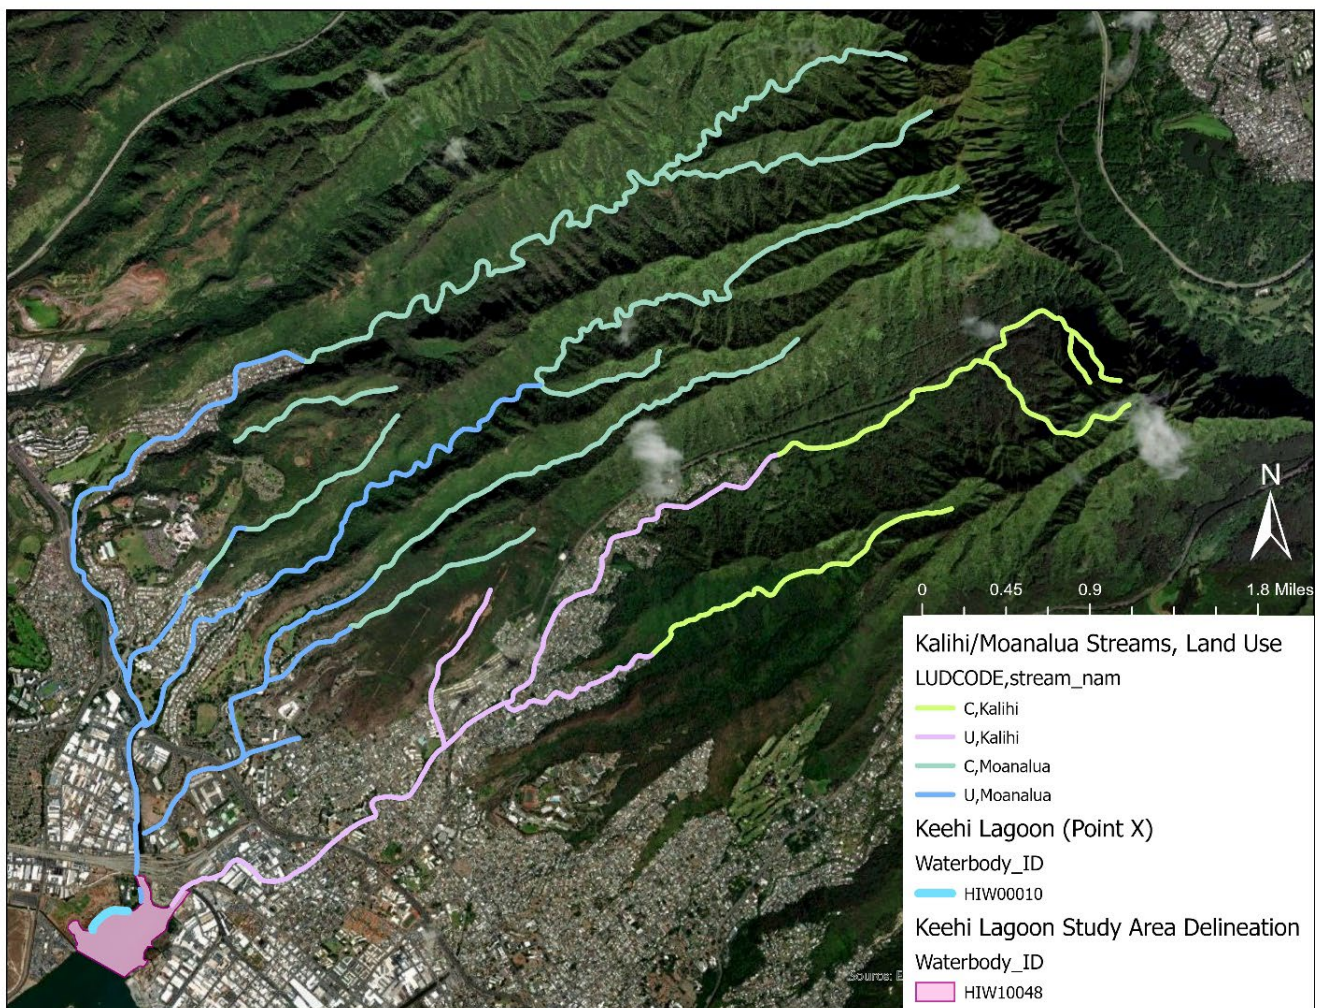

Figure 1: Water body reference map. Inland waterbodies are divided by which State Land Use area they run through (in this case conservation [C] or urban [U])
For over 15 years, Keehi Lagoon (Point X), Moanalua Stream, and Kalihi Stream (Figure 1) have been listed as impaired due to excess nutrients and high turbidity (Table 1). These waterbodies have nutrient and turbidity levels that exceed the Hawaii State Water Quality Standards (WQS) developed and implemented for the support and propagation of aquatic life, recreation, and/or aesthetic enjoyment. Since these waterbodies are impaired, the Hawaii State Department of Health (HDOH) Clean Water Branch (CWB) is obligated to develop Total Maximum Daily Loads (TMDLs) to reduce the volume of pollutants entering the waterbody and enable the waterbody to meet the WQS. Keehi Lagoon (Point X), Moanalua Stream, and Kalihi Stream were listed as “high priority” in the 2022 Integrated Report (IR) and CWB has started to develop TMDLs for these waterbodies.